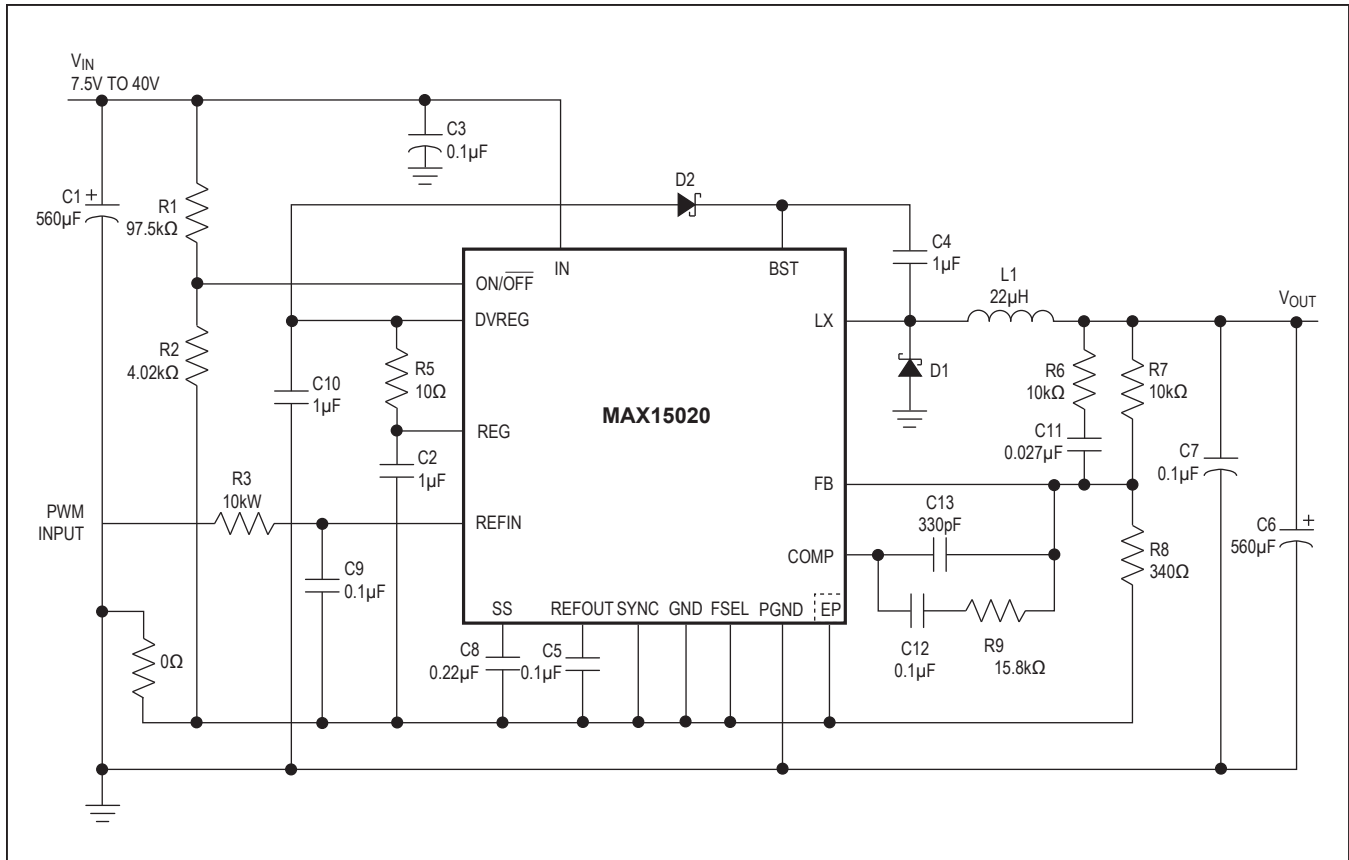

Figure 2. Typical Application Circuit
( $V_{IN} = 36V$ , Circuit of Figure 2,  $T_A = +25^\circ C$ , unless otherwise noted.)
The MAX15020 features a reference input for the internal error amplifier. The IC regulates FB to the SS voltage which is driven by the DC voltage applied to REFIN. Connect REFIN to REFOUT to use the internal 0.98V reference. Connect REFIN to a variable DC voltage source to dynamically control the output voltage. Alternatively, REFIN can also be driven by a duty-cycle control PWM source through a lowpass RC filter (Figure 2).
When the voltage at ON/OFF rises above 1.225V, the MAX15020 turns on. Connect a resistive divider from IN to ON/OFF to GND to set the turn-on voltage (see Figure 2). First select the ON/OFF to the GND resistor (R2), then calculate the resistor from IN to ON/OFF (R1) using the following equation:
Connect a resistor-divider from OUT to FB to GND to set the output voltage (see Figure 2). First calculate the resistor (R7) from OUT to FB using the guidelines in the *Compensation Design* section. Once R7 is known, calculate R8 using the following equation:
The basic regulator loop consists of a power modulator, an output feedback divider, and a voltage error amplifier. The power modulator has a DC gain set by  $V_{IN}/V_{RAMP}$ , with a double pole and a single zero set by the output inductance (L), the output capacitance ( $C_{OUT}$ ) (C6 in the Figure 2) and its ESR. The power modulator incorporates a voltage feed-forward feature, which automatically adjusts for variations in the input voltage resulting in a DC gain of 9. The following equations define the power modulator: